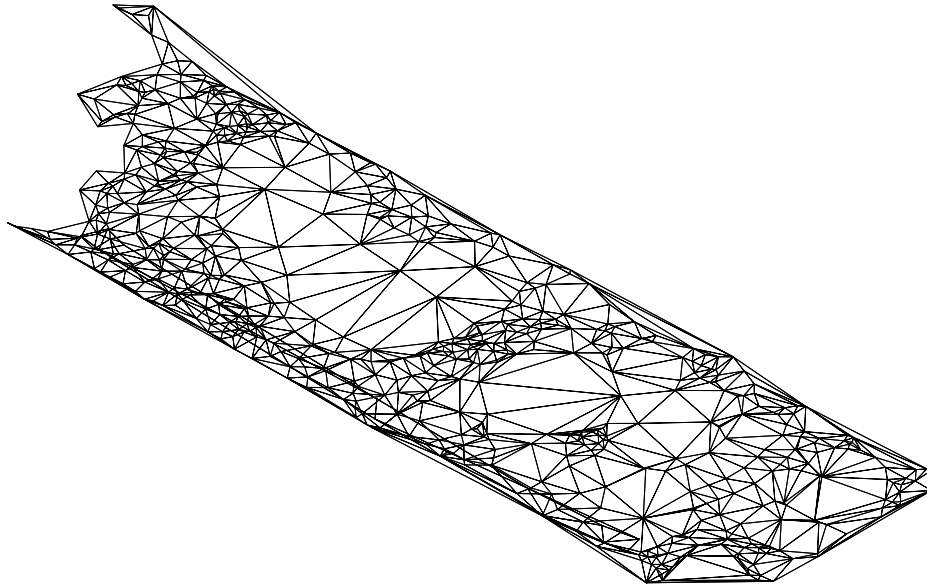

Figure 3-67 The EG surface before pasting the E Street surface
7. Before you paste the **E Street** surface on the **EG** surface, it is better to view the surfaces in a 3D view. To do so, select the **SE Isometric** option from the **Views** panel of the **View** tab; the **EG** surface is displayed in an isometric view, as shown in Figure 3-67.